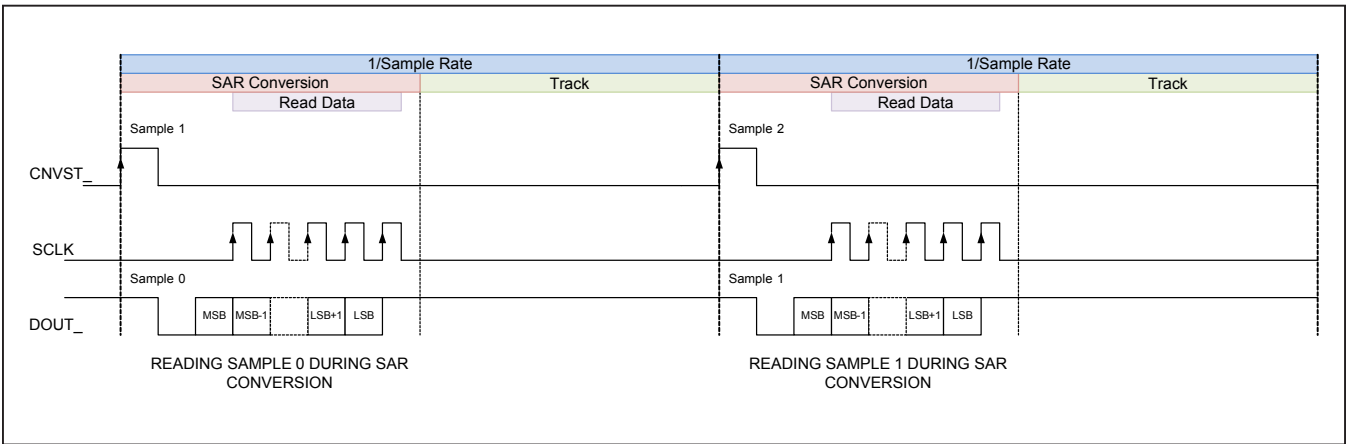

Figure 6. Read During SAR Conversion Phase
- Reading during SAR conversion phase (Figure 6)
In the reading during SAR conversion phase mode, the data is read only in the SAR conversion phase. Figure 6 illustrates all SPI signals for this mode. Note that the data being read only during the SAR conversion phase corresponds to the previous conversion frame.